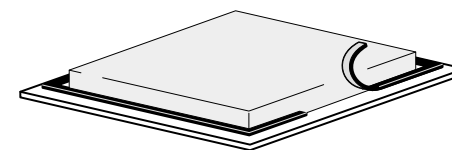
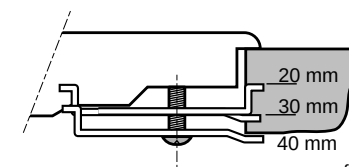

fig. 9
fig. 10
- Saw out an opening in the worktop with the dimensions shown in the illustrations 4 and 5. Stick the strips of sealant to the underside of the hob (see Fig.9), then place it in the opening. Fix the hob in the worktop by tightening the 4 clamps (see Fig. 10).